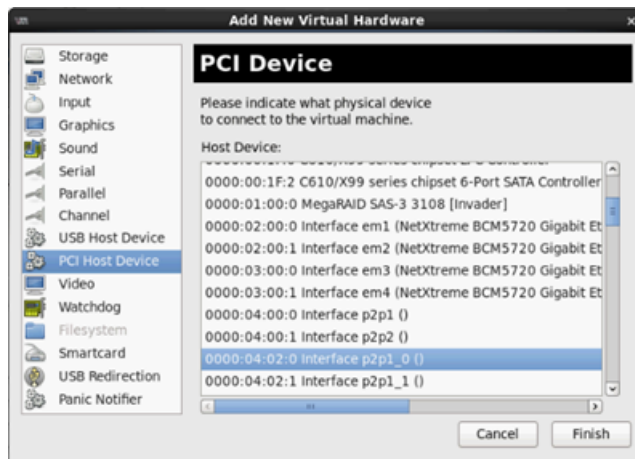

Figure 12-14. Add New Virtual Hardware
- b. In the left pane of the Add New Virtual Hardware dialog box (Figure 12-14), click **PCI Host Device**.